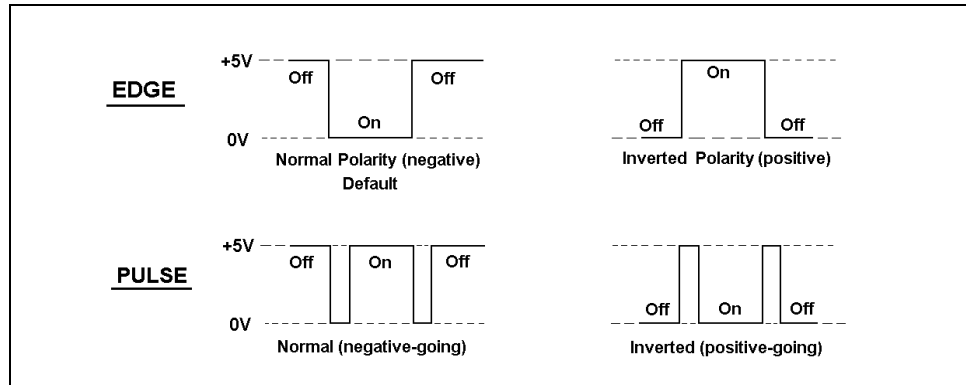

Figure E-2. TTL and Relay Input Signal Modes
- *Normal Edge*: In normal edge operation, the negative (falling) edge of a signal turns on the function and the positive (rising) edge turns off the function (see Figure E-2).